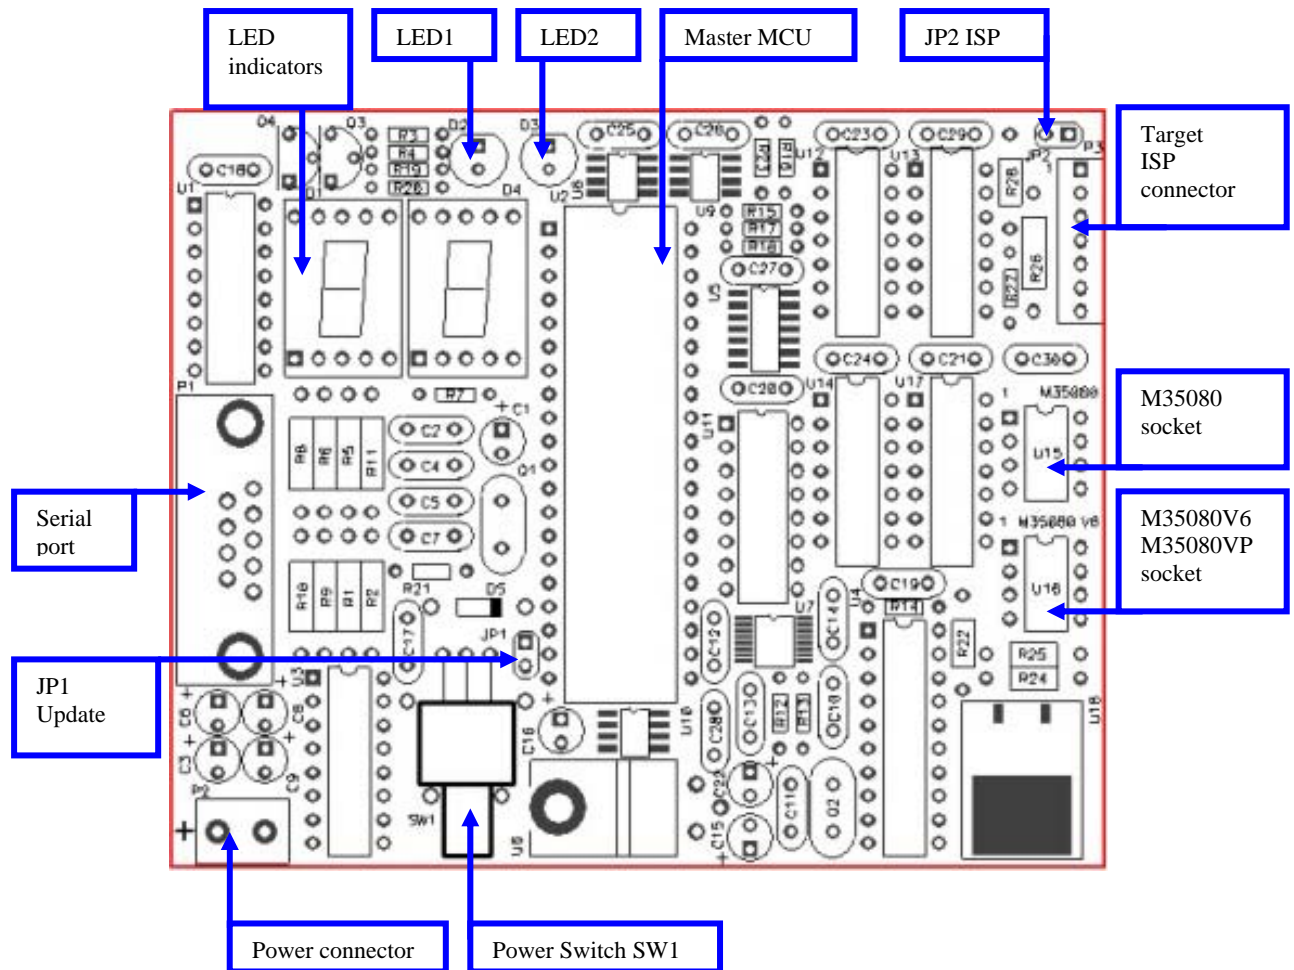
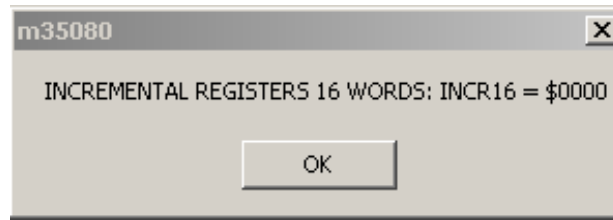
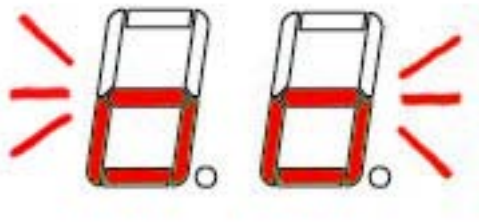

Figure 1. M35080V6 ERASER-PROGRAMMER components
Figure 16.
Figure 17.
The M35080V6 Programmer is designed to access M35080 8 Kbit serial SPI bus EEPROM with incremental registers. M35080V6 Programmer support 2,5; 5,0 ; 6.0; 8.0 MHz clock rates devices (see Appendix). To understand M35080V6 Programmer components meaning see Figure 1). To install and use the M35080V6 Programmer, follow these steps:
- Turn ON M35080V6 programmer via Power Switch (Figure 1)
Erase Incremental Registers operation will execute every time when user click “ERASE -M35080V6” command button. During this operation you should see real address of the incremental memory cell erased already on the LED indicators (Figure 1). For example if you should see a display same to this “0A”:
Step 9: LED 2 (Figure 1) will appear to the red color for a 3-5 seconds, you'll see message on display (Figure 16) and LED indicators will flashing "oo" message simultaneously (Figure 17)